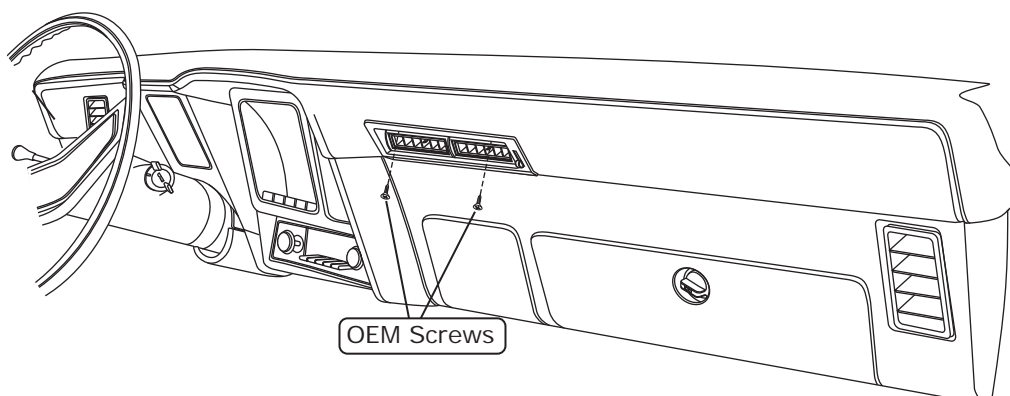

Figure 2
2. Install the center louver assembly into the dash, and secure it with the OEM mounting screws as shown in Figure 2, below.